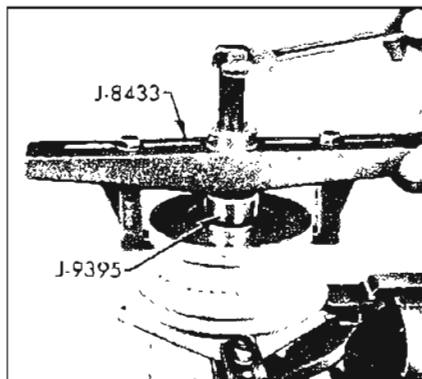

Figure 11-63—Removing Pulley Assembly
3. Place Puller Pilot (J-9395) on hub of front head and take off pulley assembly (see Figure 11-63) using Pulley Puller (J-8433).